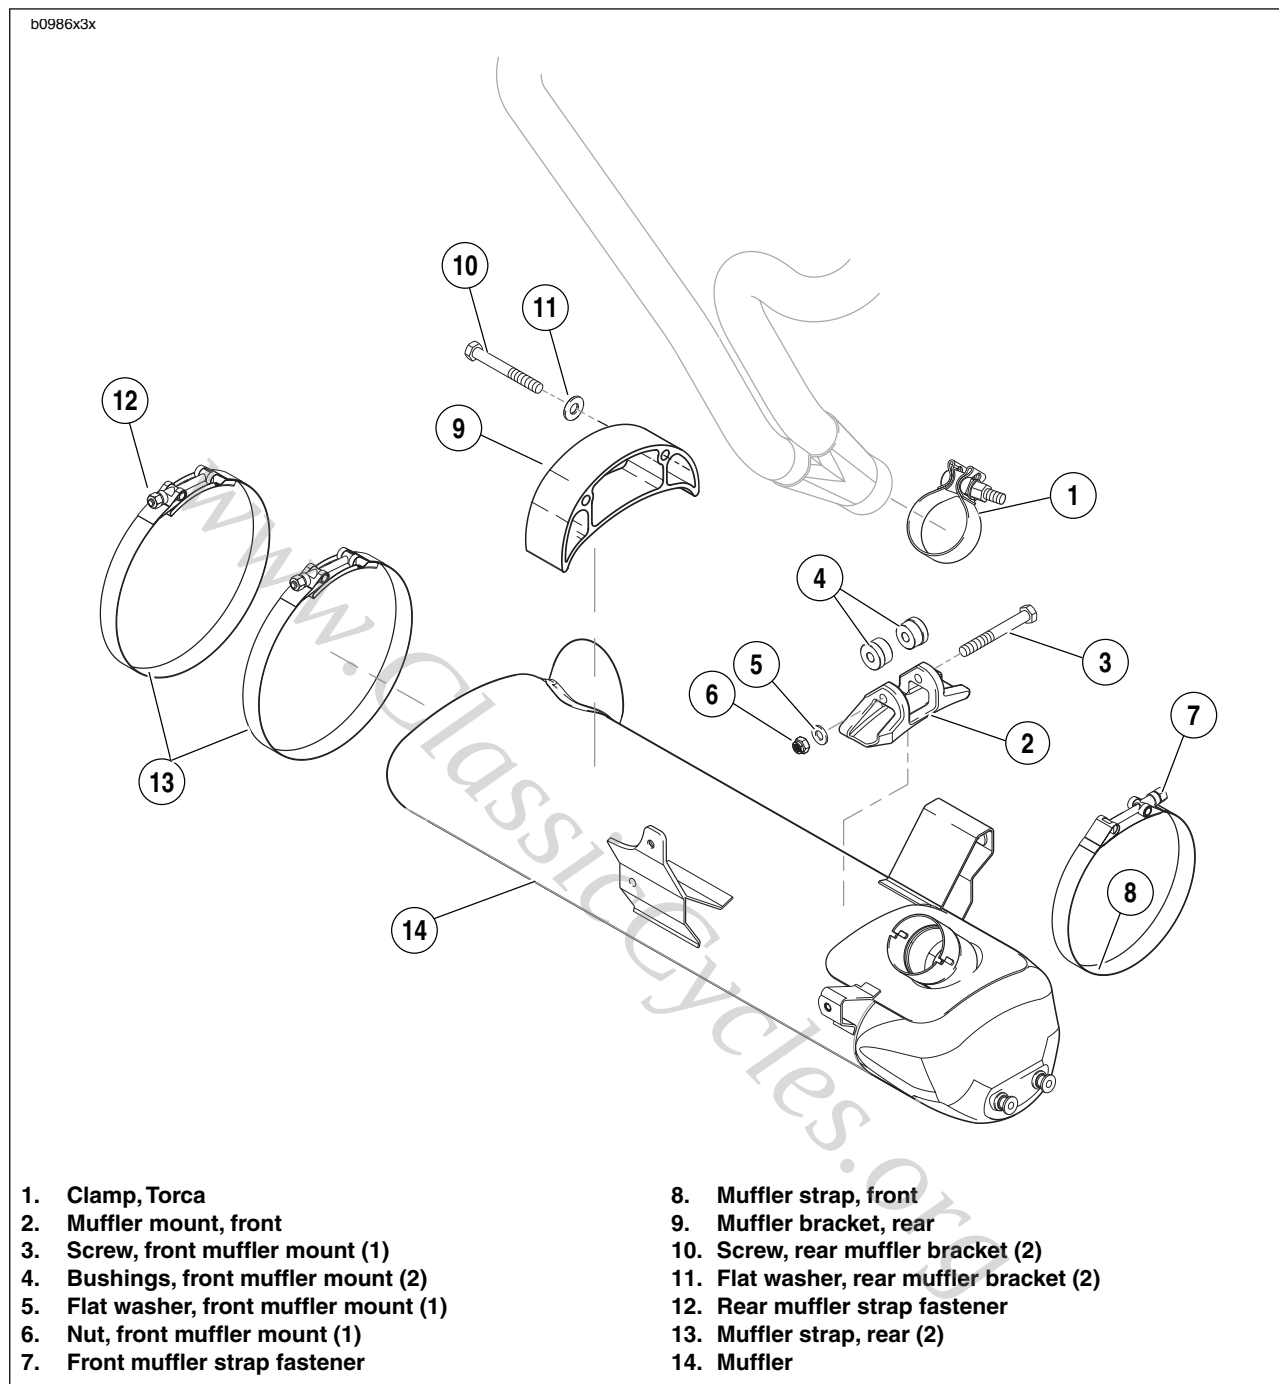

Figure 3-18. Muffler and Mounting System
15. See Figure 3-18. Remove muffler:
- a. Remove front muffler strap fastener (7). Front strap will not be removed.
- b. Alternately loosen rear strap fasteners (12) and remove rear muffler straps.